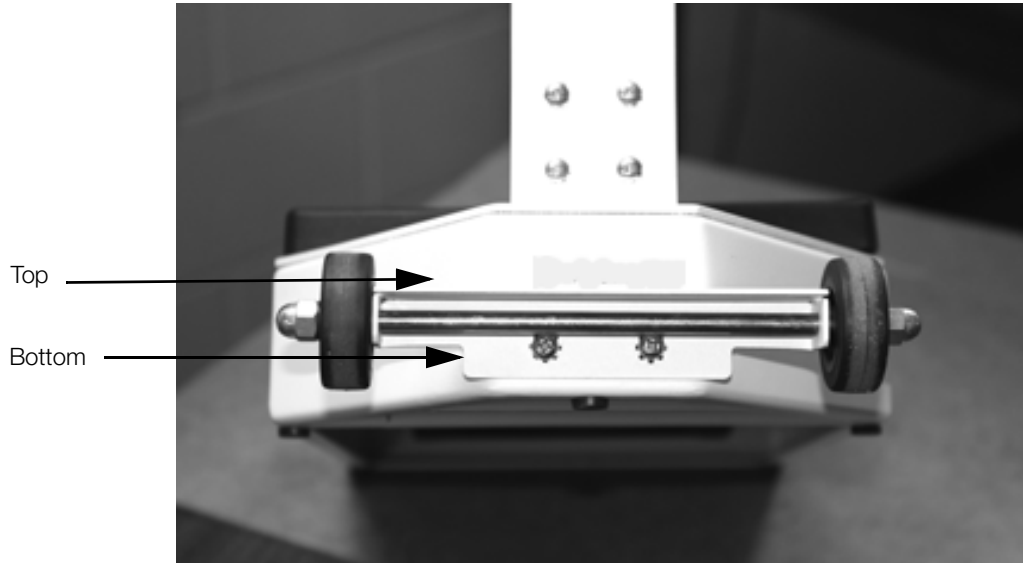

Figure 2-9. Attach the Scale Wheels onto the Scale Base
1. Align the angle iron of the wheel base to the scale platform as shown in Figure 2-9.